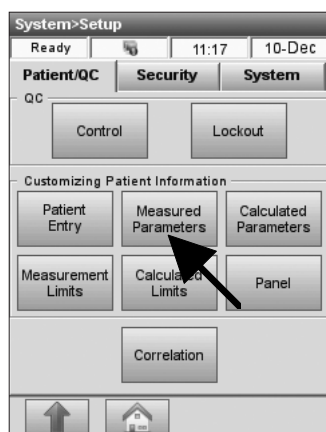

Fig. 3-19 Measured Parameters
- On the **<Patient/QC>** tab, press **<Measured Parameters>** (Fig. 3-19).